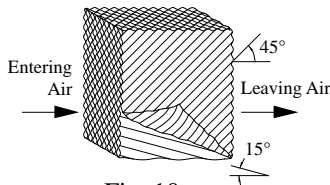

Fig. 10
**IMPORTANT:** In order to get the best performance from your cooling pads, they must be installed properly. If you have purchased a pad with two equal angles, the following instructions can be disregarded. Pads must always be installed with the steeper flute angle sloping down towards the air entering side (Fig. 10). The reason is simple. The steeper angle puts more water on the hot, dry, dirty side of the pad where it is needed most. It also counteracts the tendency of the air to push the water toward the back of the pad.